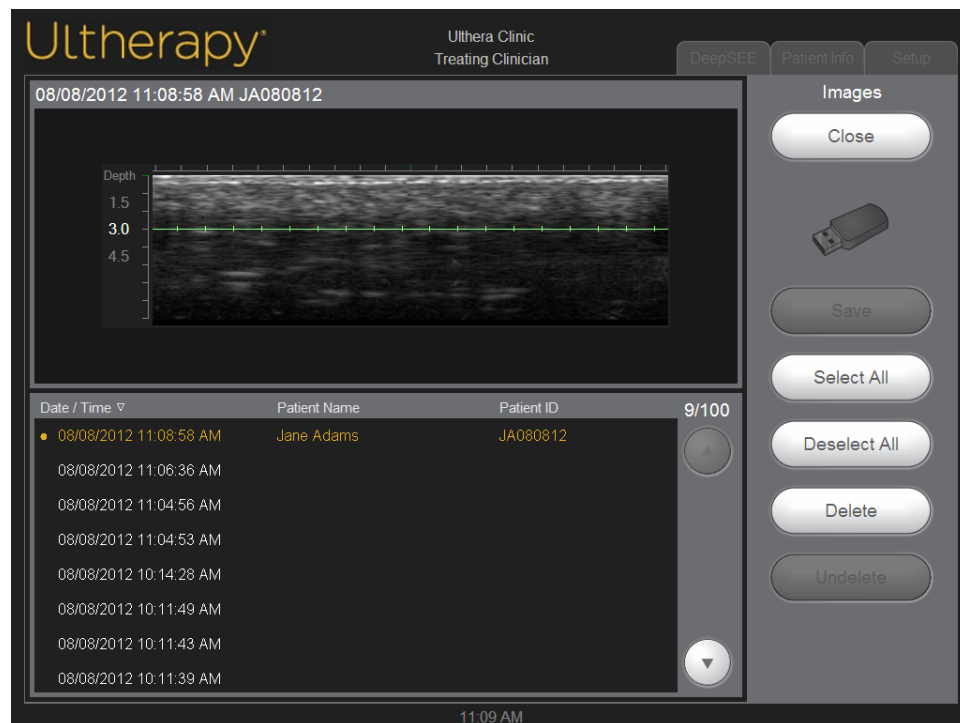

Figure 7.10 Patient Image Record List
1. On the **Setup** screen, tap the **Images** button to view a list of treated patients like the one shown in Figure 7.10: